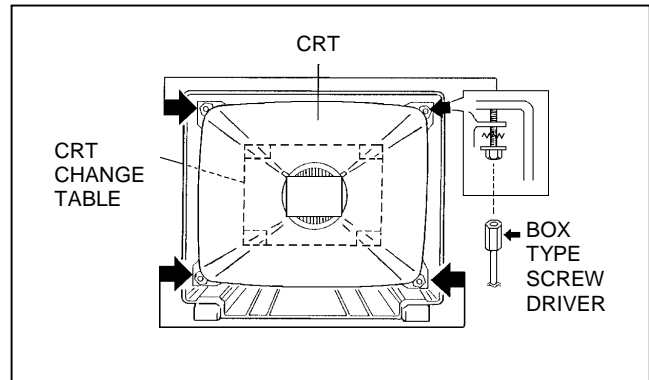

Fig. 4
3. Remove 4 screws marked by arrows with a box type screw driver as shown in Fig.4.